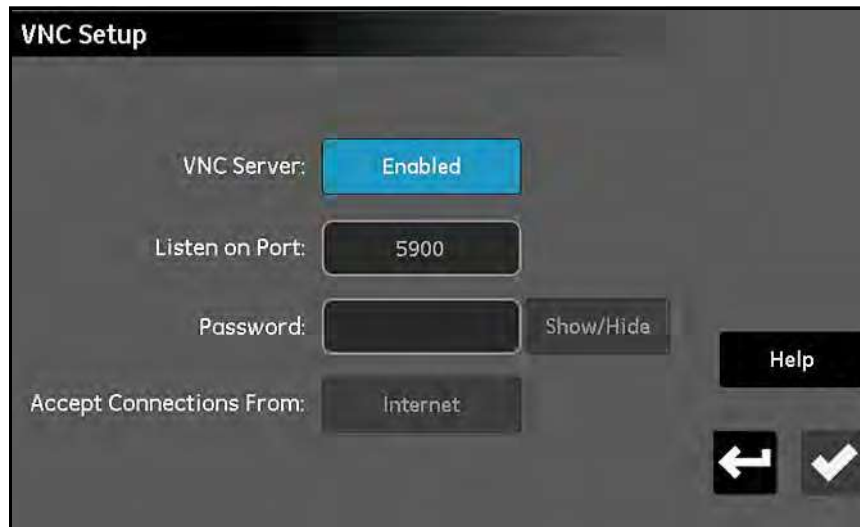

Figure 64: VNC Setup Screen
1. From the *Configuration Menu* screen (see *Figure 47* on page 53), tap the **VNC** button to open a *VNC Setup* screen similar to *Figure 64* below.